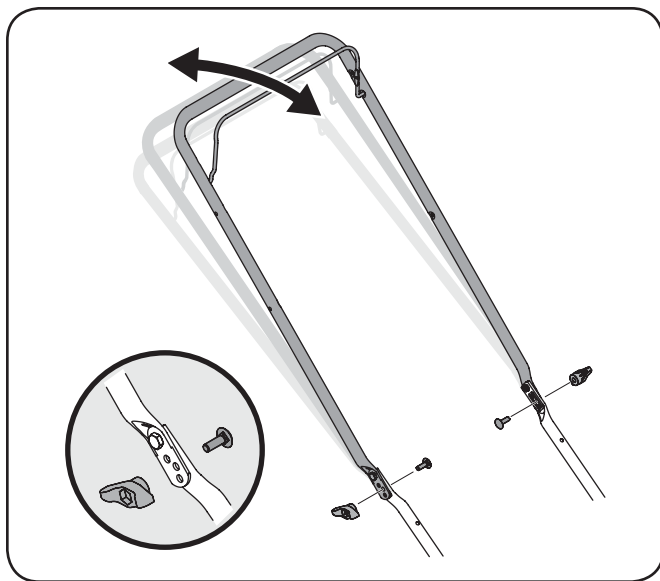

Figure 3-10
1. Remove wing nuts and carriage bolts from handle. See Fig. 3-10.
2. Position the handle in one of the three positions that is most comfortable. See Fig. 3-10 inset.